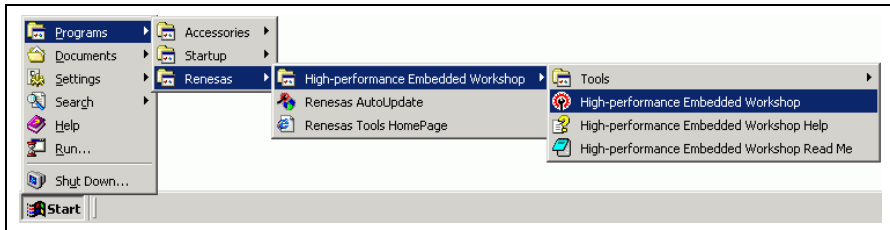

Figure 2.12 [Start] Menu
4. Activate the High-performance Embedded Workshop from the [Programs] in the [Start] menu (figure 2.12).